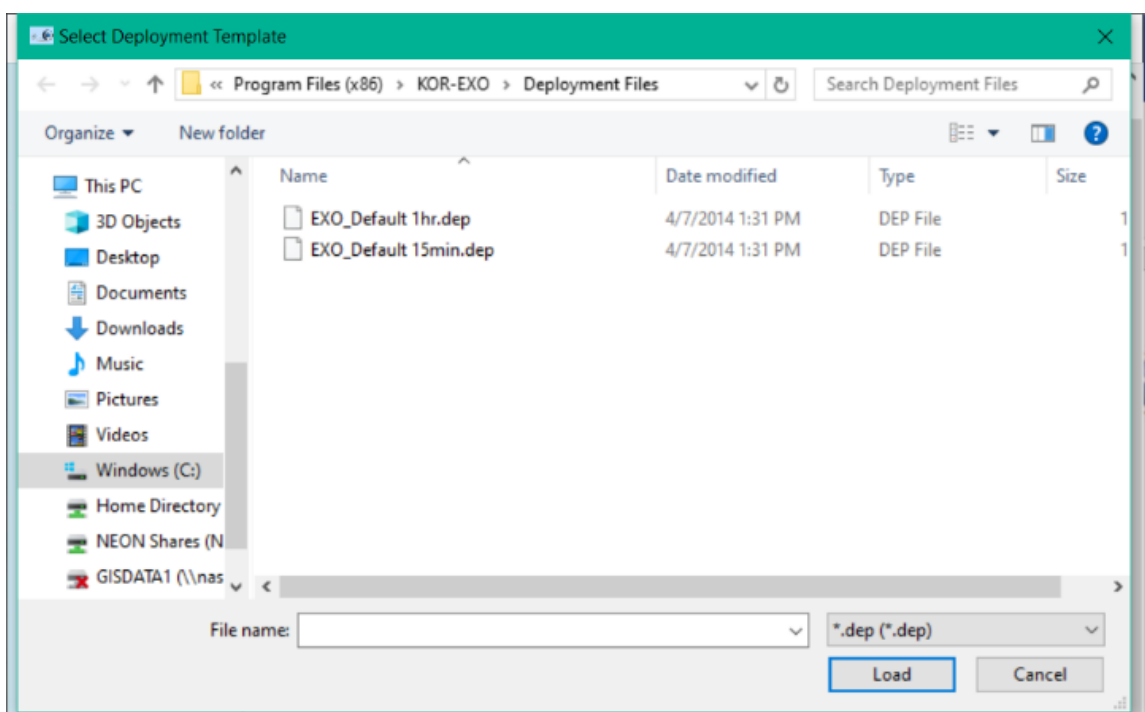

Figure 5. Choose a Deployment Template and Click Load
3. In the file folder pop-up window, choose a deployment template and click **Load** (Figure 5).